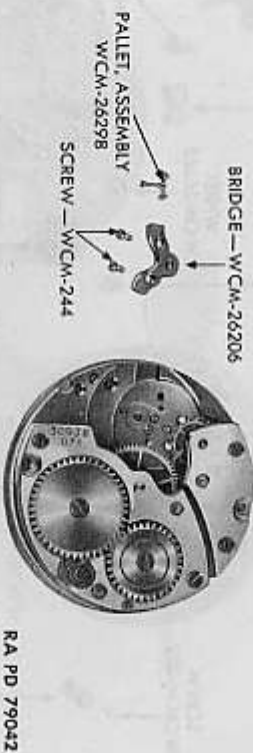

Figure 158 — Waltham Wrist Watch — Pallet Bridge and Pallet Assembly Removed
- i. Remove Pallet Bridge and Pallet Assembly (fig. 158). Remove pallet bridge screws and pallet bridge. Remove pallet with tweezers.
**h. Replace Pallet and Pallet Bridge Assembly (fig. 158).** Replace pallet assembly. Replace pallet bridge assembly, carefully aligning the pallet arbor pivot in its hole. Check freedom of pallet assembly and then check the action of the pallet assembly and escape wheel. Rotate crown two turns and check action of pallet assembly and escape wheels. Remove stem and crown.